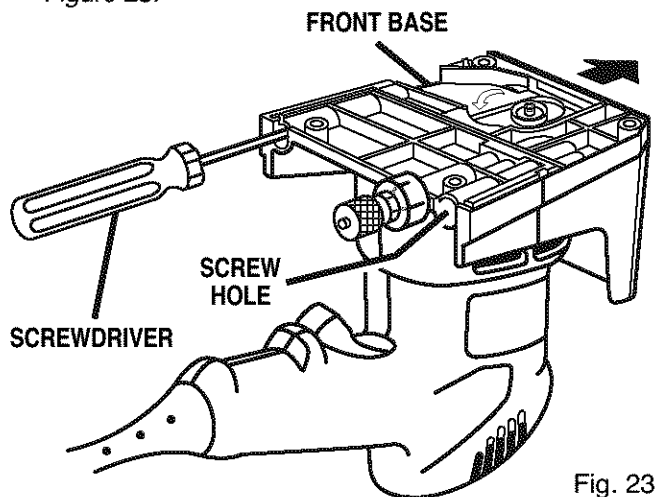

Fig. 23
- Place your Biscuit Joiner upside down on a workbench and remove the bottom shoe screws (4) and bottom shoe.
- With your Biscuit Joiner still upside down on a workbench, remove front base screws (2). See Figure 23.
- Pull front base in the direction shown by the arrow in Figure 23 and remove.